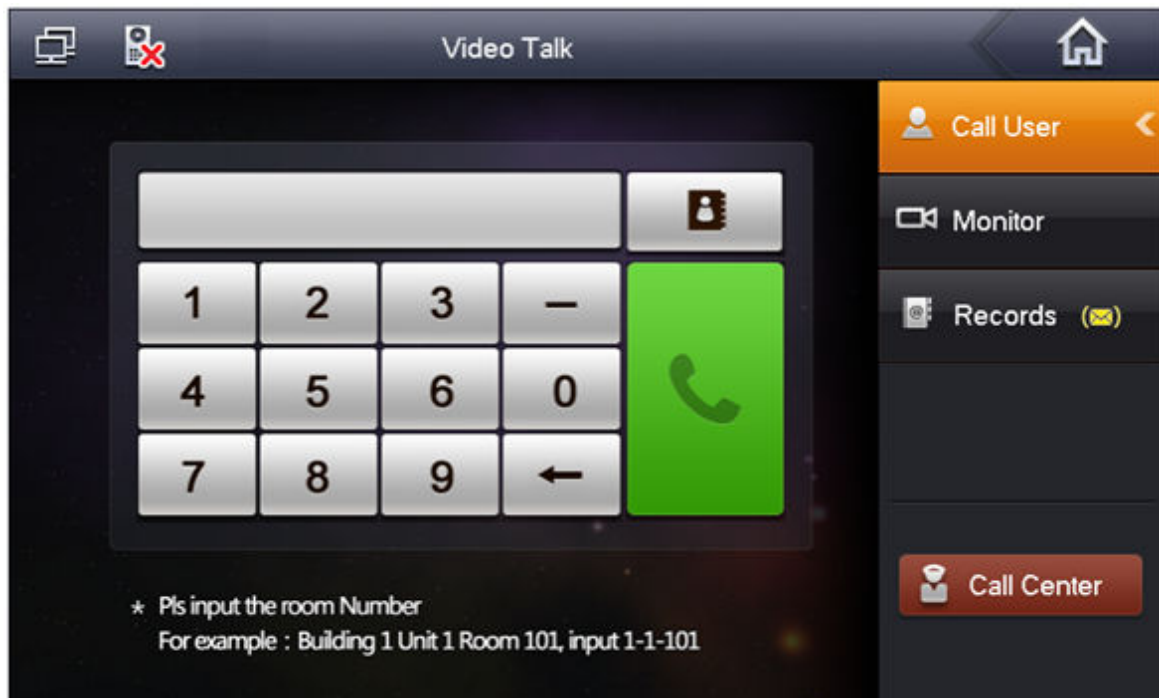

Figure 3- 2
Step 1. Click , Input room no. of user to call (i.e. Building 1, Unit 1, Room 101 is 1-1-101), press  icon to call. When the user being called answers the call, user can have a bidirectional talk. See Figure 3- 2.